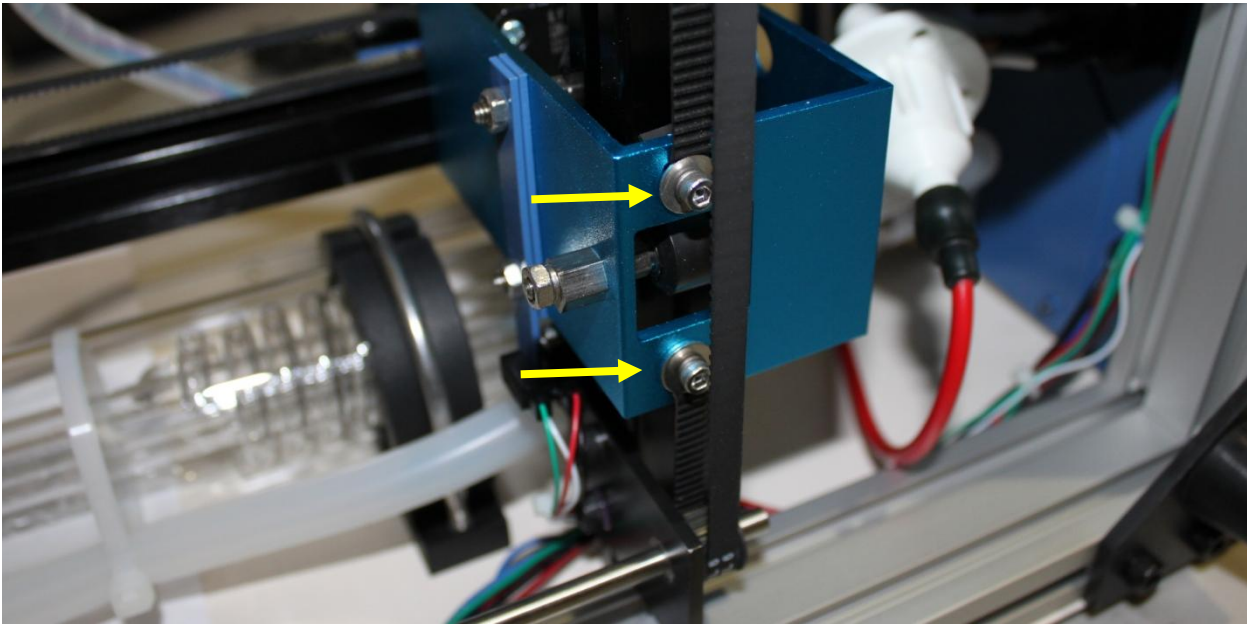
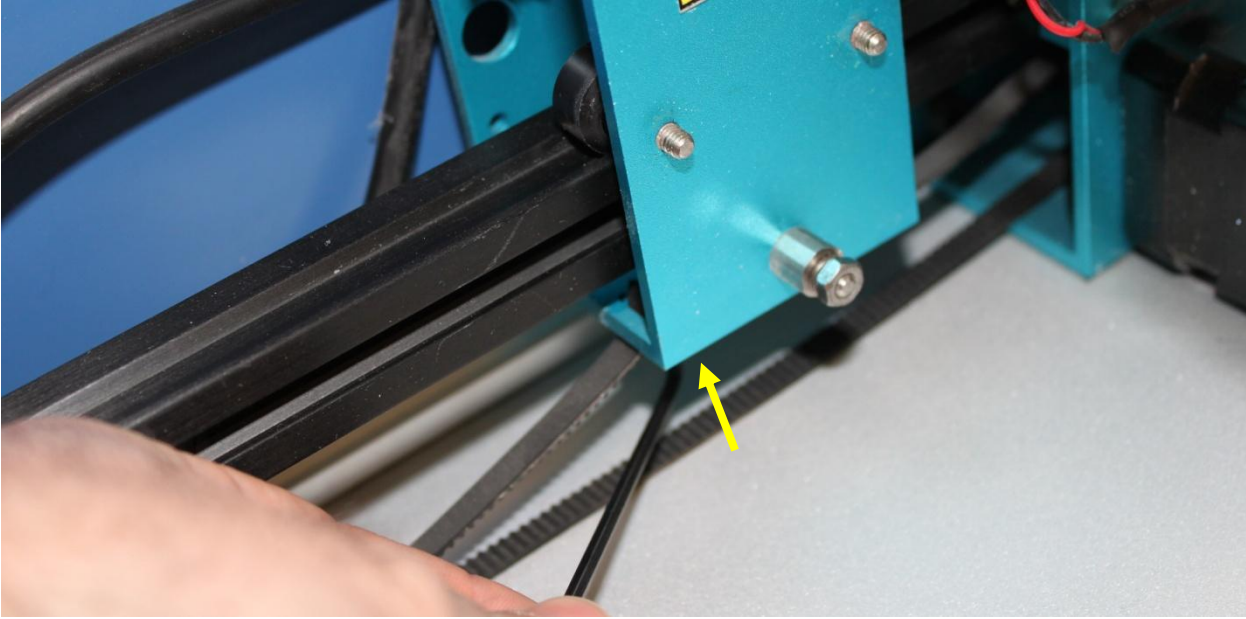
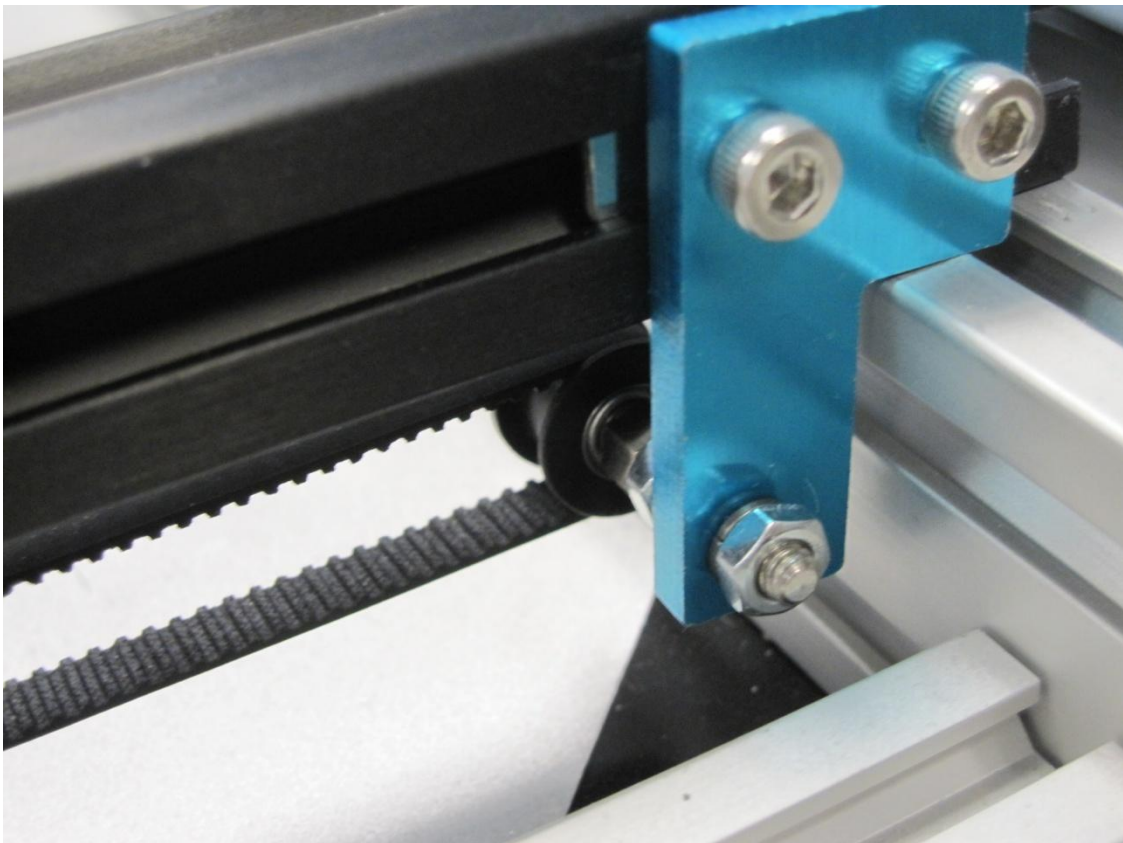

Figure 72
Figure 74
Figure 75
3. Run each end of the new belt through the mounting slot with the teeth on the inside of the closed loop (see Figure 72 and Figure 75).
4. Tighten the M3 screws to secure and retain the belt (Figure 72 and Figure 74). Starting the thread with your fingers can speed the process up.
7. Tension the belt by pulling on the Y idler pulley mount (Figure 75) with your hand. Moderate to strong force is recommended.